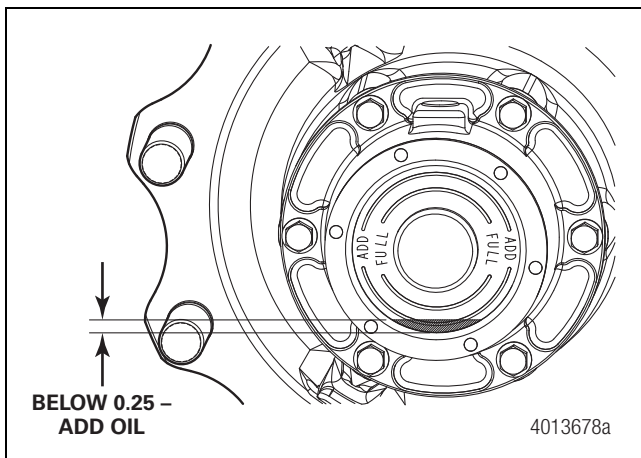

Figure 13.5
- Inspect the wheel-end oil level at least every 1,000 miles (1600 km). To check, verify that the vehicle is on level ground, then clean the hubcap window and observe the oil level. Add lubricant if the oil level is down more than 0.25-inch (6.3 mm) from the full line. Figure 13.5.